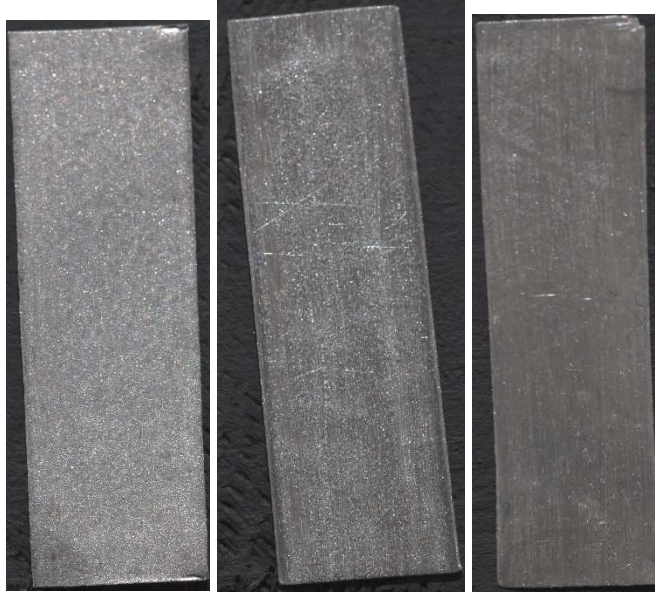

Figure 2: Left: a properly sanded lead coupon. Middle: a partially over-sanded lead coupon. Right: a completely over-sanded shiny lead coupon.
2. Place a 12" x 12" flat glass plate inside the filtration box. Sand both sides of the lead coupon (Click here for video), sanding only along the length of the coupon, away from the user, using an unused area of folded 3200 grit Micromesh™ sand paper using even, light pressure. Each side of the long strip of lead should take approximately 35 seconds to sand. Anything longer tends to result in over-sanding. Consistent sanding is critical for producing reproducible test coupons. The idea is to remove the native oxide with minimal pressure. Printing and hanging enlarged images of over-sanded and correctly sanded lead coupons in the preparation area is recommended for reference. See Figure 2 below for an example of properly sanded lead and shiny over-sanded lead. The sanding process is completed in a hood with ULPA filtration (Click here for video).